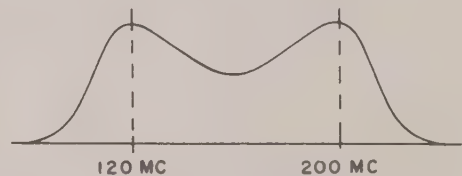

Figure 7. L1303 and L1306 Response Curve
c. Connect the crystal detector to either pin 3 or pin 6 of V1302 and adjust L1303 and L1306 to obtain the response shown in figure 7.